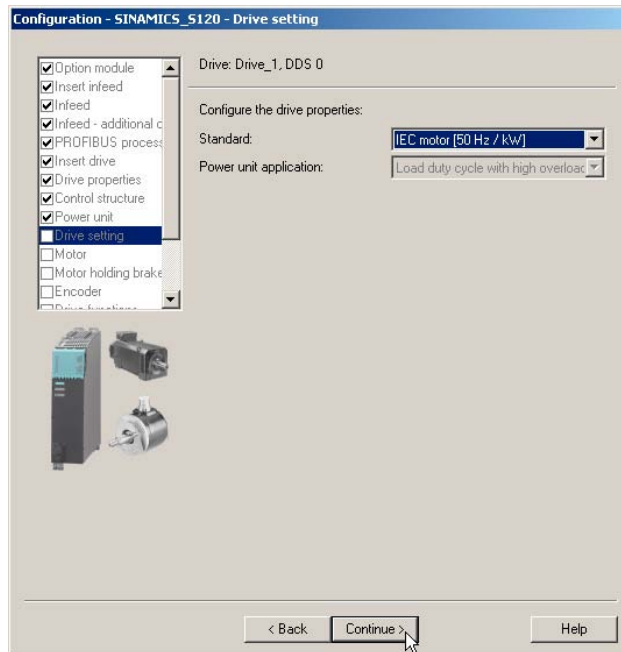

Fig. 3-25 Drive settings
The following dialog box (see Fig. 3-25) is displayed when you configure an induction motor with vector control.
16. Choose the “Standard” and the “Power unit application” as shown in Fig. 3-25 (the default setting can be left as it is).